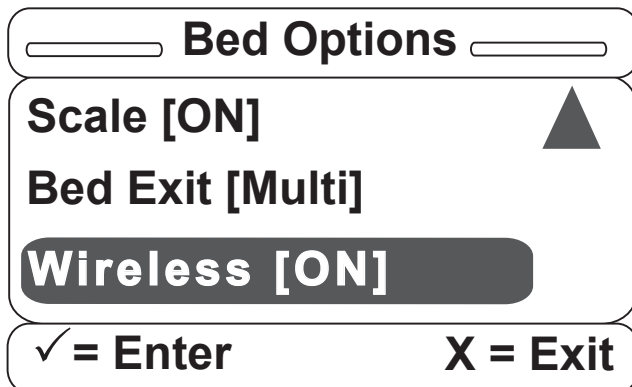

Figure S-21
21. After the Wireless option is confirmed and set, you will be returned to the Bed Options screen as shown in Figure S-21. You will notice text in square brackets next to each option in the Bed Options menu. This indicates all of your options as being set with the status in brackets. You may re-enter any option and change the setting at any time.